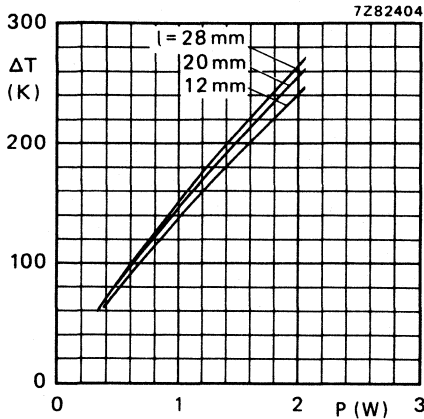

Fig. 3 Hot-spot temperature rise ( $\Delta T$ ) versus dissipated power ( $P$ ) at different lead lengths ( $l$ ), leads  $\phi = 0,6$  mm.
- Temperature rise (ΔT) of the resistor body as a function of dissipation see Figs 3 and 4